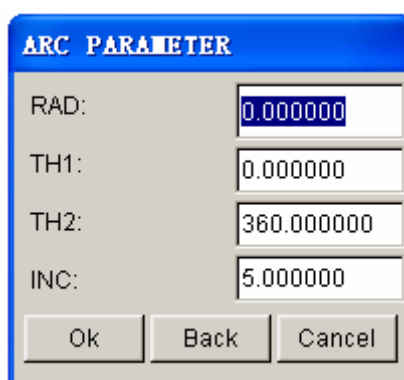

Figure 5.1.6 Arc Parameters dialog box
- Key in the values in the ARC PARAMETER dialog box as illustrated in Figure 5.1.6.